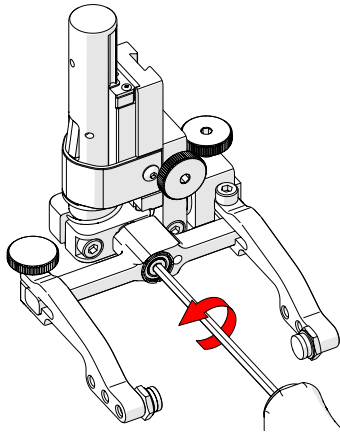

Fig. 116 - Unscrew yoke pivot screw
2. Using the supplied 3 mm hex driver (Fig. 23), unscrew the yoke pivot screw and remove yoke (Fig. 116).